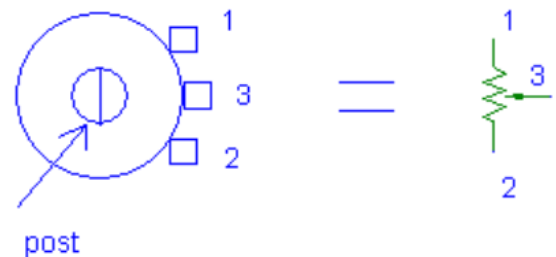

Figure 6 – Potentiometer description (left) and circuit symbol (right).
A potentiometer (or "pot") is a circuit component with three terminals as shown in Fig. 6. Terminal 3 is connected to a movable contact or arm. The resistance between terminals 1 and 2 is fixed and is equal to the rated value for the potentiometer. The resistance between terminals 3 and 1 or between 3 and 2 can be varied by moving the arm up or down. If terminals 1 and 2 are connected across a voltage source, then the voltage between terminals 3 and 1 and between 3 and 2 can be varied by moving the arm.
1. Measure the resistance across the entire pot (pins 1 to 2 in Fig. 6).